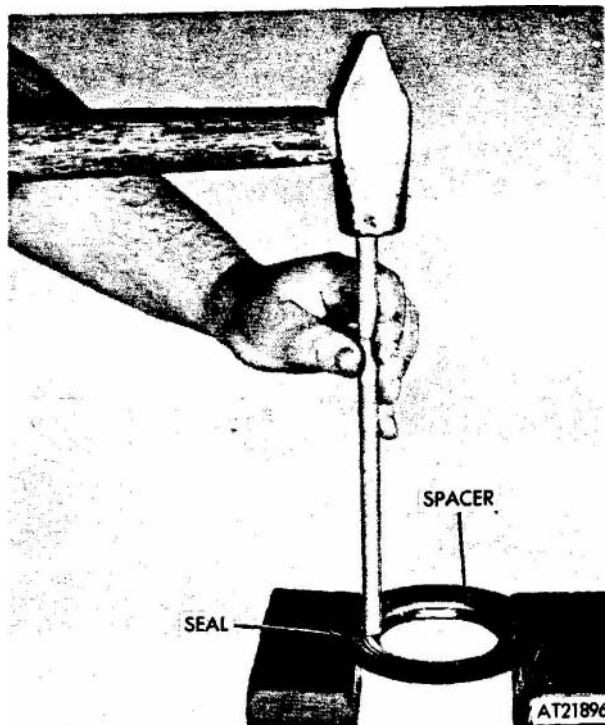
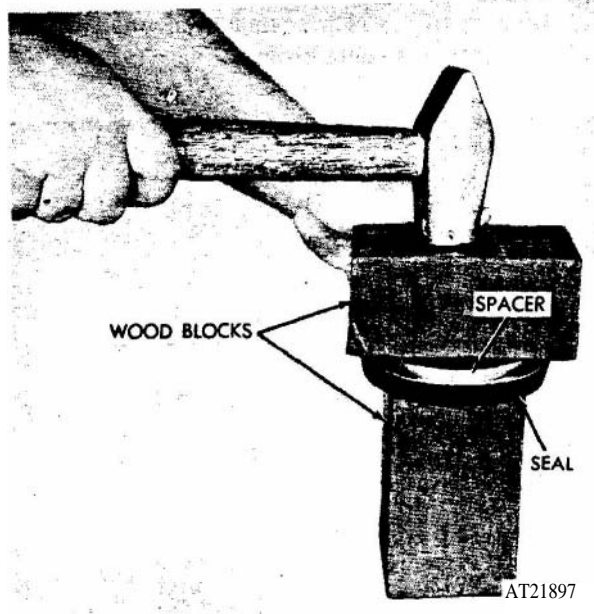

Figure 2-243. Outer seal and spacer disassembly.
Figure 2-244. Outer seal and spacer assembly.
(13) Using a suitable drift and hammer separate outer seal and spacer (fig 2-243) and install a new seal (fig 2-244).